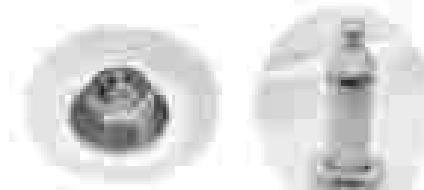

Figure 9 - Roller hardware.
3. To remove the roller shaft, remove the 3/8" nut and washer from the roller support, and remove the support and remaining triangular ring. See Figure 9.